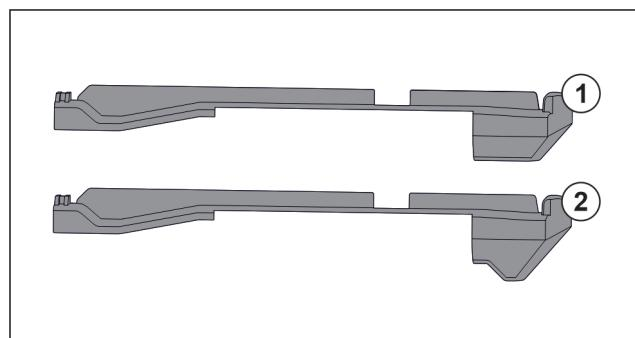

Fig. 121 Comparing attachments
There are two different attachments in the appliance. The attachment above the lowest drawer Fig. 121 (2) has a three-cornered edge. All other attachments Fig. 121 (1) have a straight edge.
- ▶ Fit attachment Fig. 121 (2) with the three-cornered edge above the lowest drawer.
- ▶ Fit attachment Fig. 121 (1) with straight edge in all other positions.